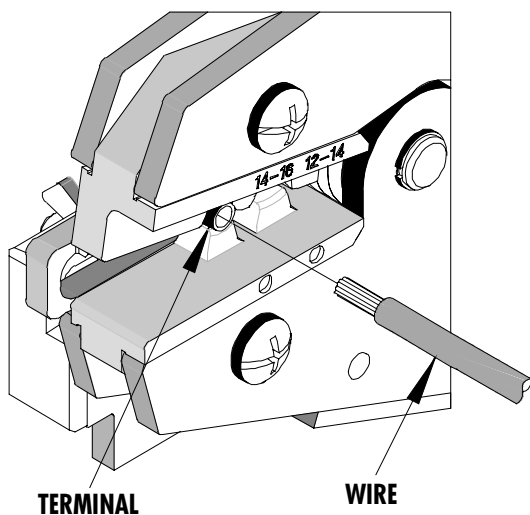

Figure 2
3. Partially close the tool to hold the terminal in place. See Figure 2.
4. Insert the properly stripped wire into the terminal barrel (See Figure 2 and 3). The wires end should stop against the locator blade. Cycle the tool.